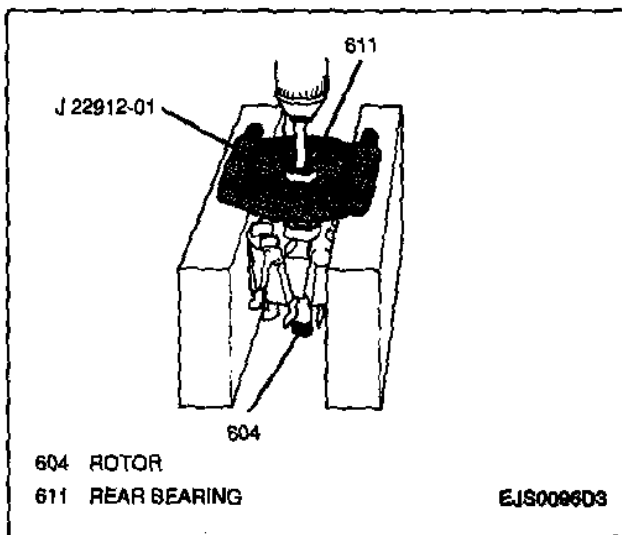

Figure 9—Removing Rear Bearing
10. Rear bearing from rotor using a J 22912-01 and a press (Figure 9).